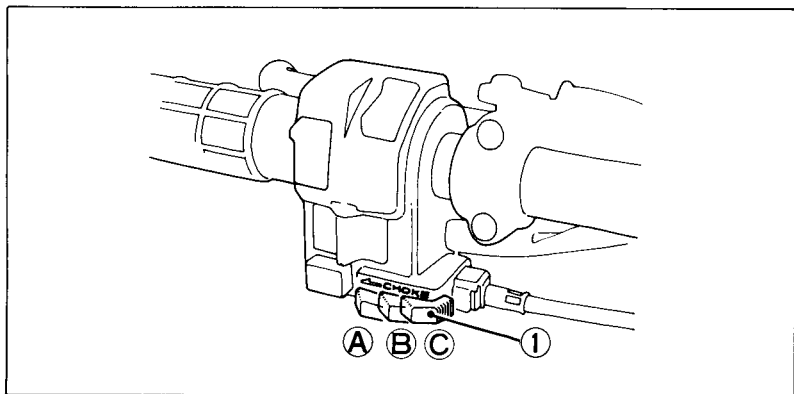

Fig. 2-7
The choke lever (Fig. 2-7) is next to the starter button. The choke has three positions: full choke (A), half choke (B), and off (C).
(1) Kick starter
(2) Right side cover
3. If the engine is cold, move the choke lever left to the full choke position (see Fig. 2-7).